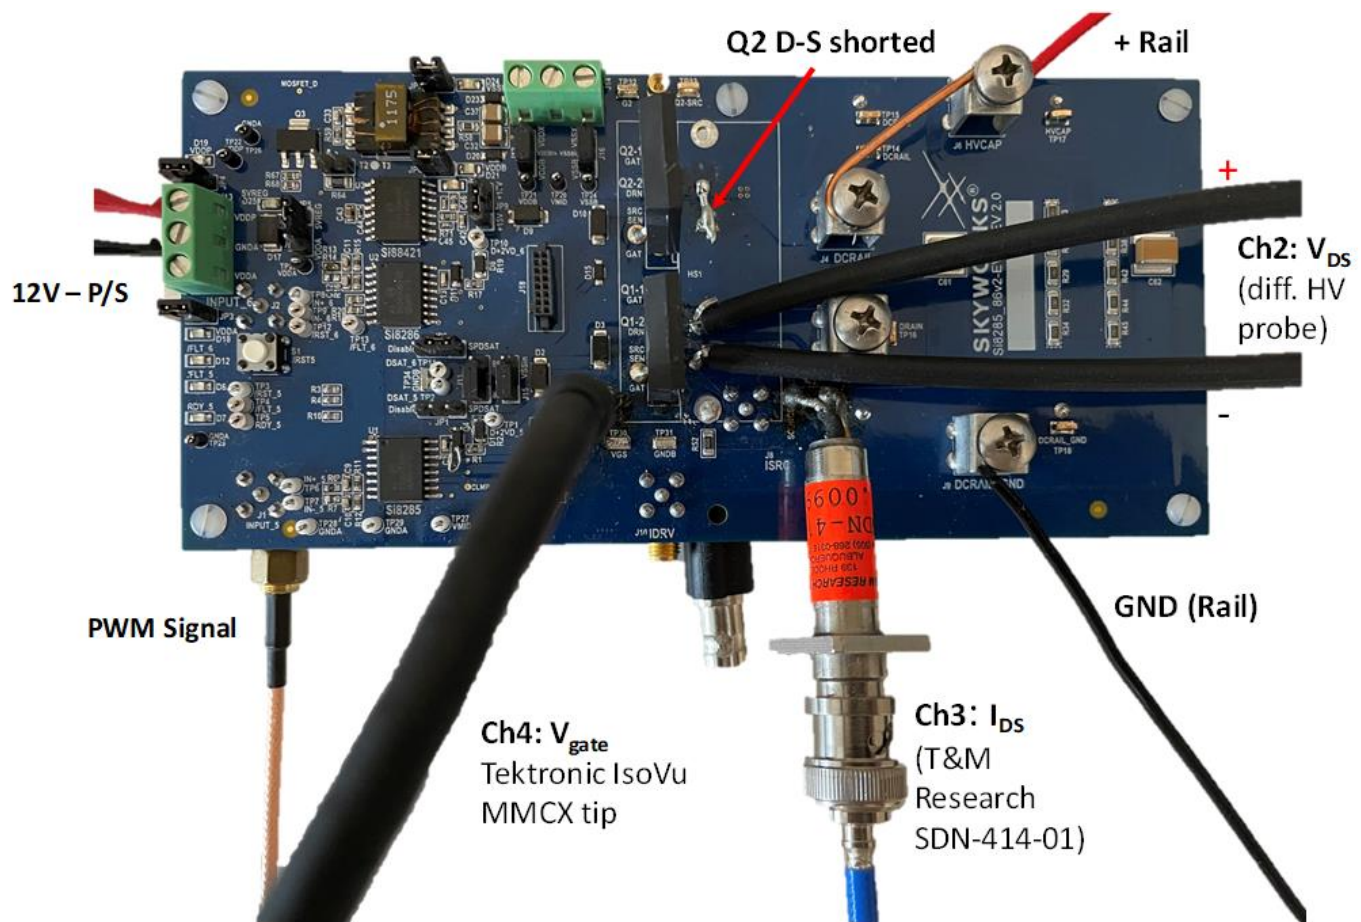

Figure 5.2. Connections for Si8285 DESAT Test Circuit
3. Solder a bus wire across the Drain to Source terminals of Q2 (see Figure 5.2 Connections for Si8285 DESAT Test Circuit on page 22).